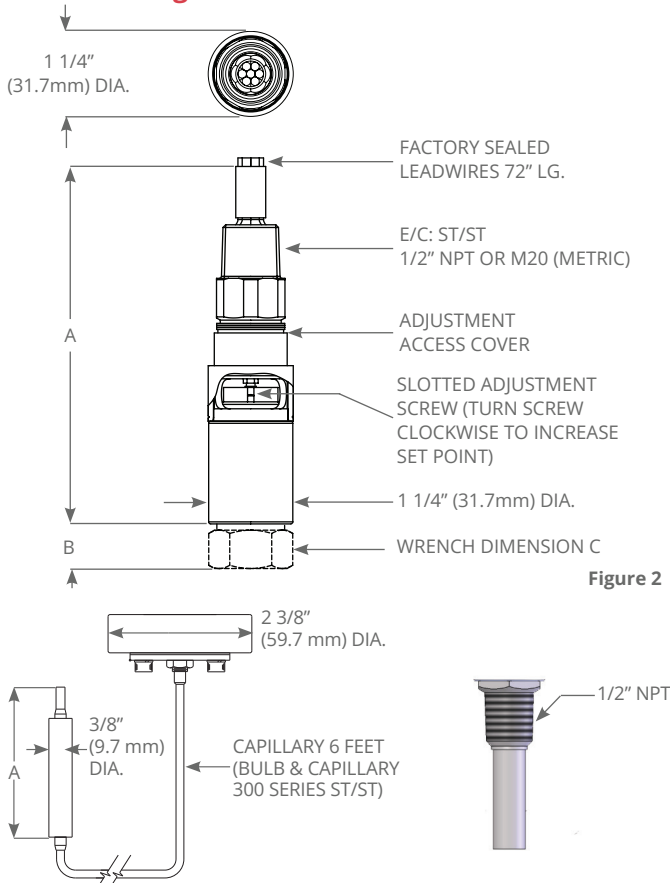

Figure 2
**ALWAYS USE A WRENCH ON LOCAL MOUNT, IMMERSION STEM HEX (SEE FIGURE 2). DO NOT TIGHTEN BY TURNING THE ENCLOSURE AS THIS WILL DAMAGE THE SENSOR AND WEAKEN WELDED JOINTS.**
- 4 Insert screwdriver into adjustment slot and turn clockwise to increase setting or counter clockwise to decrease setting. (See Figure 2)